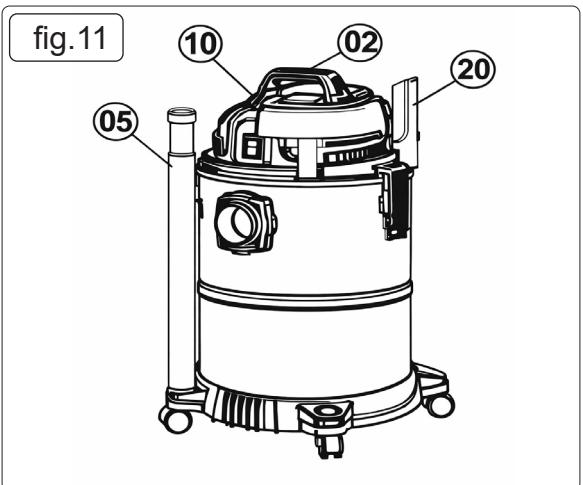

fig.11
6.5. Use the accessory retention bracket(s) to store accessories, as shown in fig.11.